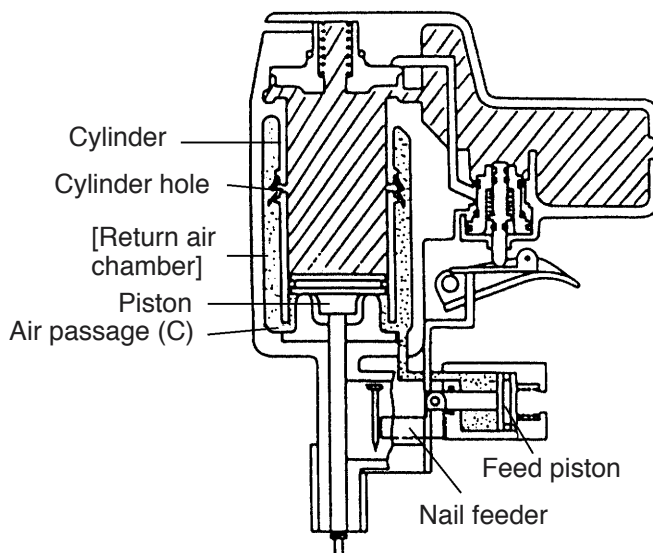

Fig. 10 During nailing (II)
(3) During nailing (II) (See Fig. 10.)